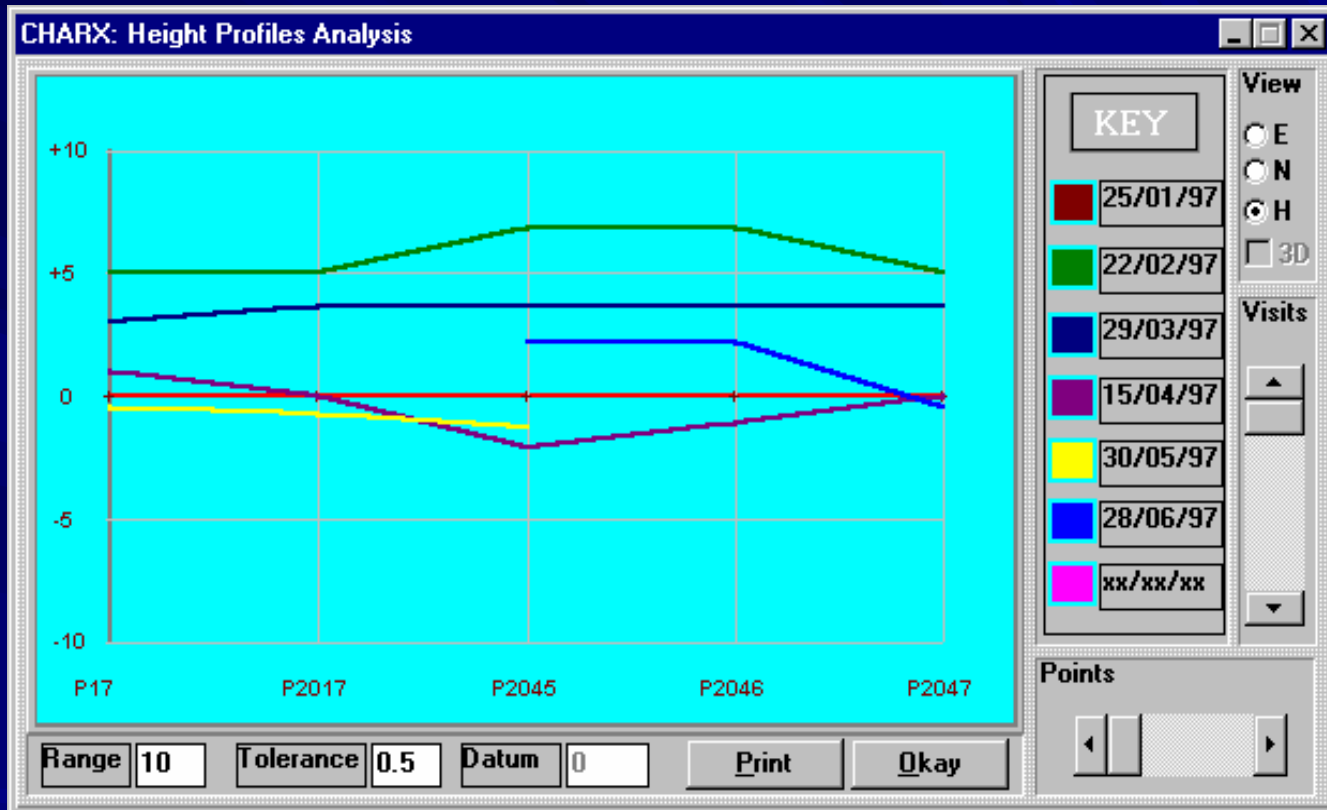

Fig. 7-3
- SMS highlight movements from user-specified tolerance to a depth of seven cycles, Fig. 7-3.